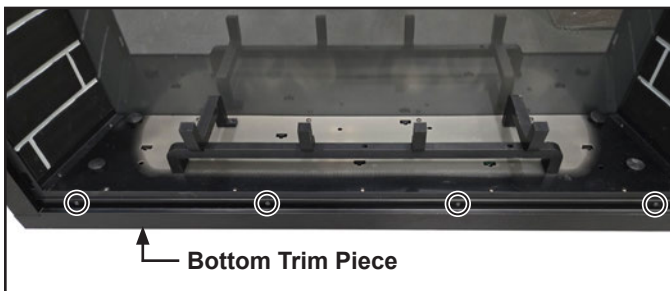

Figure 7.4 Bottom Trim Attachment
2. Attach the bottom trim piece with the screw removed in the previous step. See Figure 7.4.